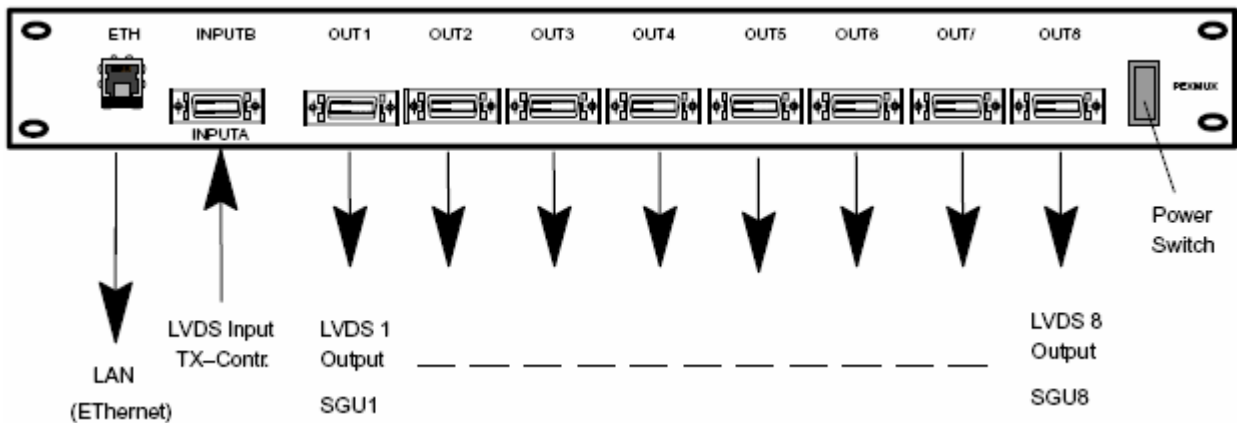

Figure 7.1: External Connections for the PEXMUX8 Unit
- Switching on the unit using the power switch (see Figure 7.1: for location of the switch).